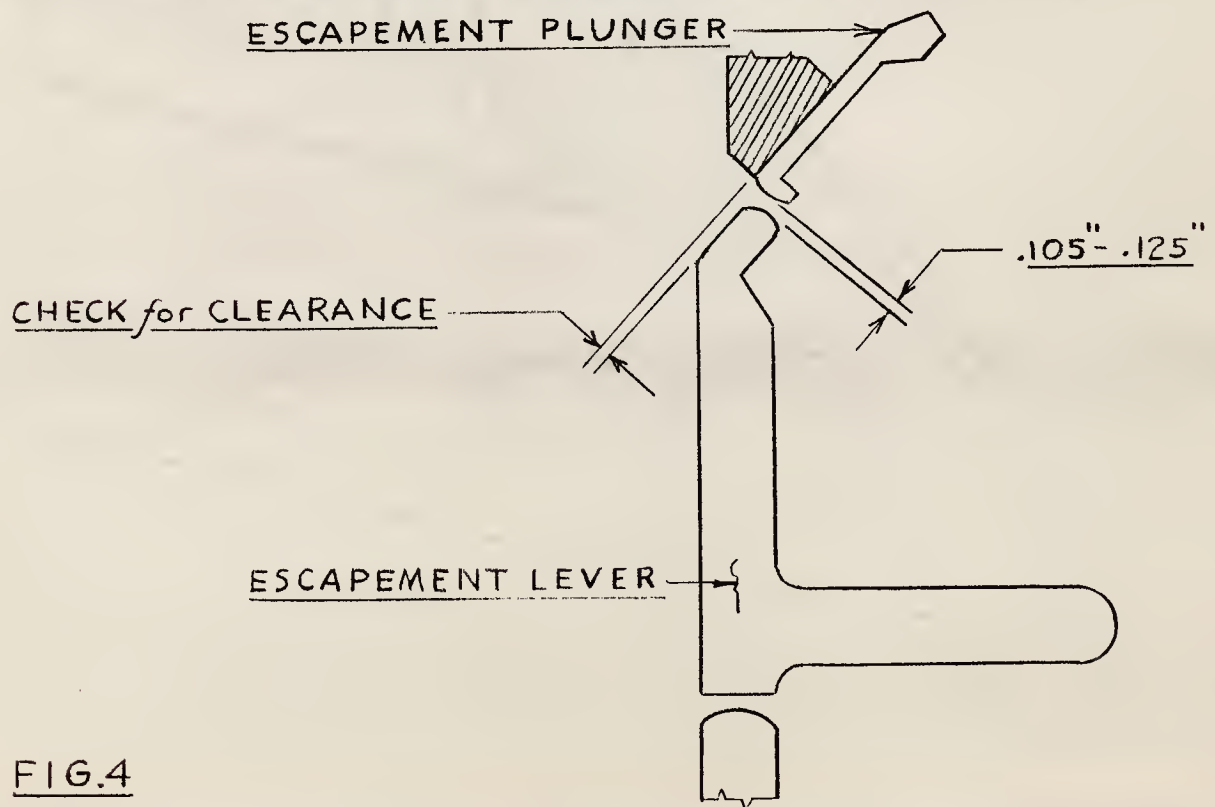

FIG.4
(D) Clearance between escapement plunger and escapement lever (Fig. 4)